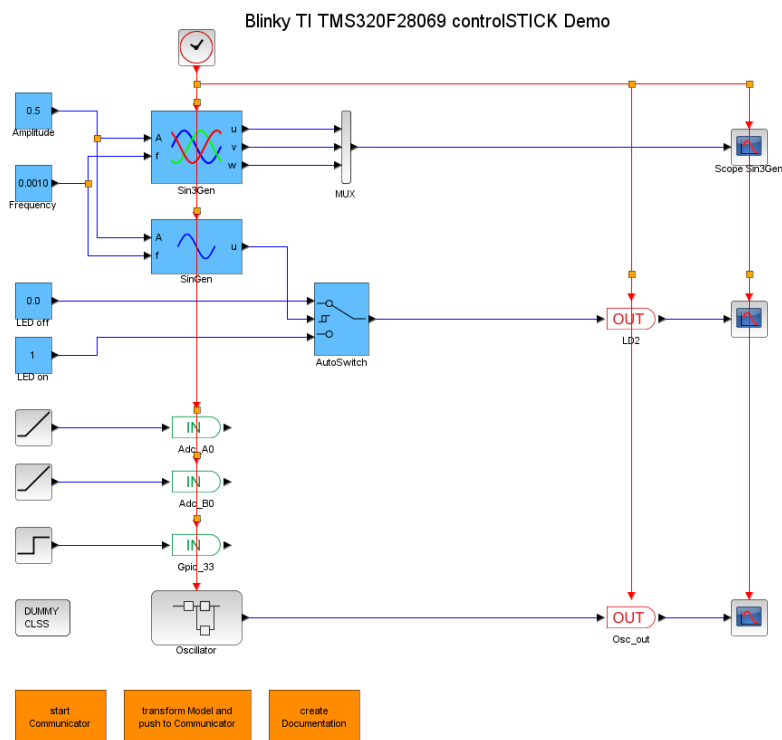

Figure 1: *Blinky* demo application in *Scilab*
2. Double click on **DemoApplication.zcos**. The example project contains a few blocks used to demonstrate the basic function of *X2C* (see Figure 1). The *Inport* and *Outport* blocks define the interface between the generated *X2C* code and the peripheral functions (e.g. ADC or GPIO Pins) on the target. For details about each block function read *X2Copen.Doc.pdf* in the documentation folder of the *X2C* directory.